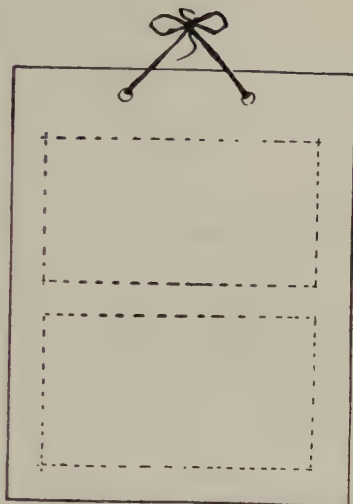

FIG. 86—POSITION OF PICTURE AND PAD ON FACE OF BOARD
8. Paste-off picture on pasting board, affix and press. (Fig. 86.)
9. Glue off calendar pad, affix and press. (Fig. 86.)